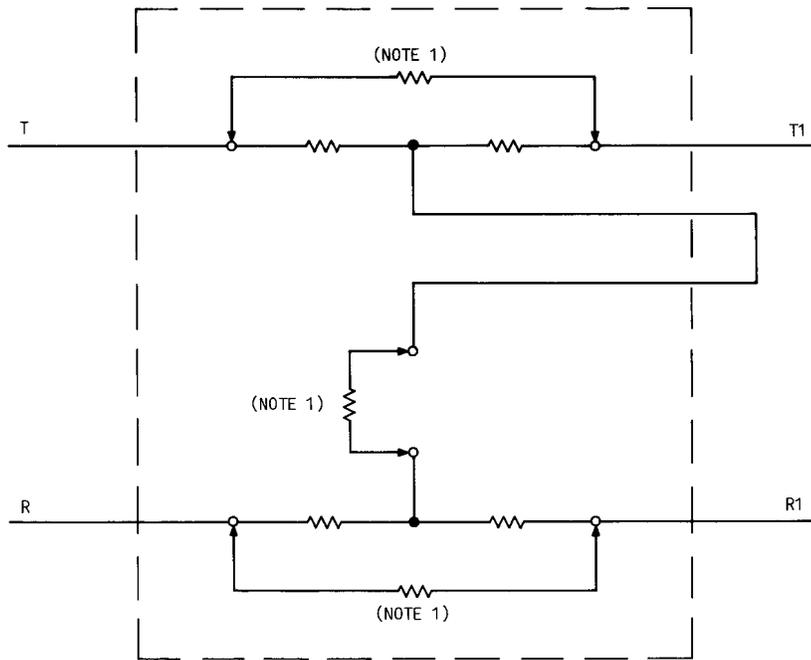

Fig. 6-49—1C Pad Socket and 89-Type Resistor
**6.60 Description:** The 89-Type resistors are plug-in units that fit into pad sockets such as a 1C pad socket (Fig. 6-49). The 89-type resistors can be used in 849-type networks, 1-type terminating sets, and 4182-type networks that contain pad sockets. The 1000-Hz loss through the 89-type resistors when plugged into the pad socket is listed in Table 6-L. The impedance of both sides of the pad plus resistors is  $600 \Omega$ .